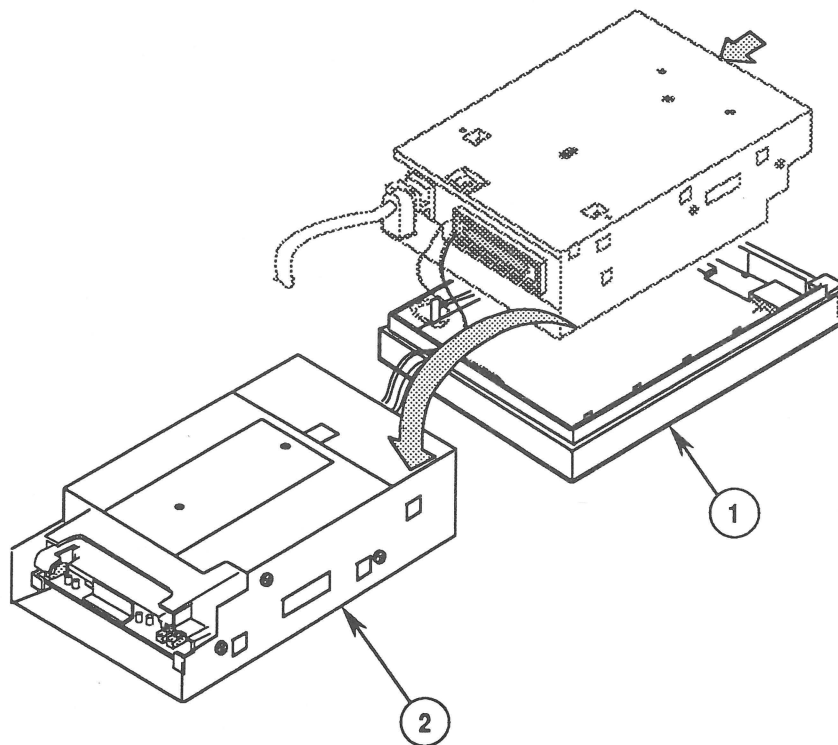

FIGURE 3
6. Grip the case top (Figure 3, #1) in one hand and the drive assembly (Figure 3, #2) in the other. Carefully slide the drive assembly as far as it will go toward the cable end of the case top.
7. Lift the drive assembly out of the case top. Then flip the drive assembly over as shown in Figure 3, and set it right side up on the padded surface. The drive assembly and case top will be end to end.